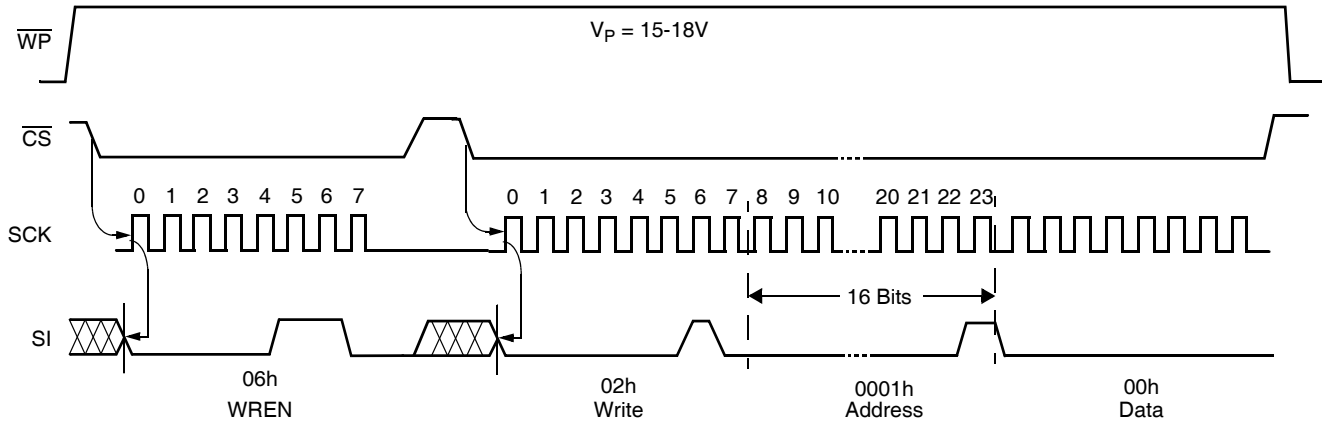

FIGURE 1. SET  $V_{TRIP}$  LEVEL SEQUENCE ( $V_{CC} = \text{DESIRED } V_{TRIP} \text{ VALUE}$ )
| 0000 0001          | Write status instruction—followed by:Block lock/WDT byte: (See Figure 1)000WD 1 WD 2 000 --->no block lock: 00h-00h--->none of the array000WD 1 WD 2 001 --->block lock Q1: 0000h-00FFh--->lower quadrant (Q1)000WD 1 WD 2 010 --->block lock Q2: 0100h-01FFh--->Q2000WD 1 WD 2 011 --->block lock Q3: 0200h-02FFh--->Q3000WD 1 WD 2 100 --->block lock Q4: 0300h-03FFh--->upper quadrant (Q4)000WD 1 WD 2 101 --->block lock H1: 0000h-01FFh--->lower half of the array (H1)000WD 1 WD 2 110 --->block lock P0: 0000h-000Fh--->lower page (P0)000WD 1 WD 2 111 --->block lock Pn: 03F0h-03FFh--->upper page (PN) |